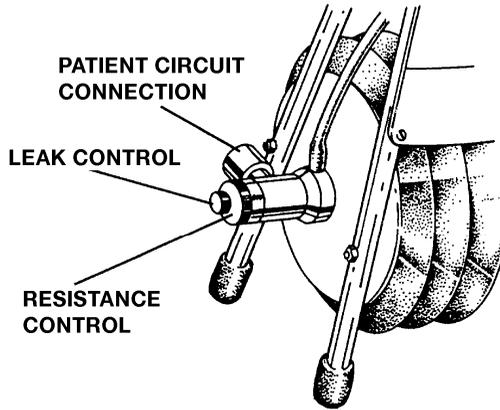

FIGURE 2. OPERATING CONTROLS
A variable leak control, illustrated in Fig.2 is incorporated, so that the effect of leaks in the breathing circuit can be demonstrated.
4. Connect the patient connections from the ventilator to the patient circuit connection of the Lung Simulator illustrated in figure 2.